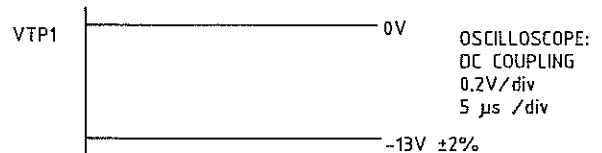

Figure 1
(3) BLACK LEVEL ADJUSTMENT
- Adjust with potentiometer R57 on Video amplifier board the clamp level to -13V $\pm$ 2%, see figure 1 below.